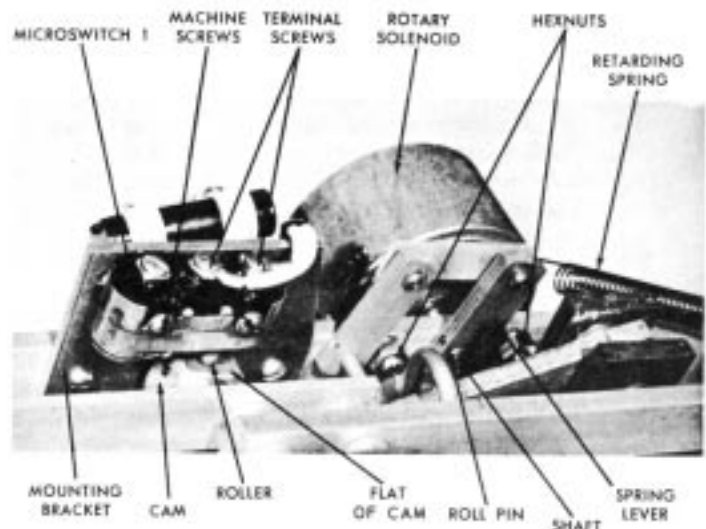

Figure 34
Refer to figure 34 and proceed as follows:
3. Attach new microswitch to mounting bracket. Adjust microswitch so that roller lever stop just touches base of switch when roller rides on cam. When roller is off cam, it should just clear flat of cam as shown in figure 34. Tighten machine screws.